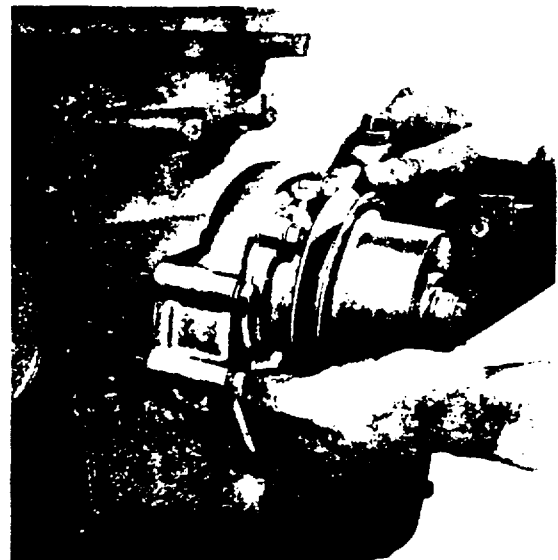

Fig. M.2.
3. Unscrew the five setscrews which pass through the pump and rear pump body into the cylinder block. Withdraw the pump from the engine (see Fig. M.2).